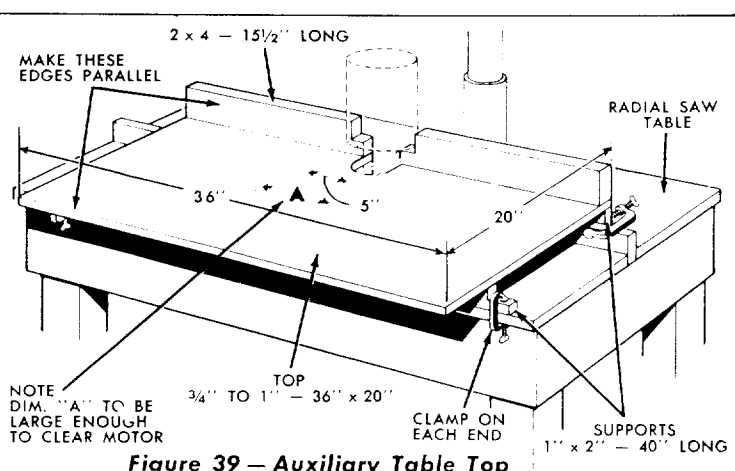

Figure 39 - Auxiliary Table Top
7. An auxiliary table top for molding or shaping can be constructed similar to Figure 39. Note the shape of the back guide fence against which your work piece is moved. A cut-out 5" wide should be made at the center of this guide fence to give adequate clearance for the molding head and cutters. Also a wider clearance marked "A" should be made to allow for the radial saw motor. Be sure the front edge of the auxiliary table is parallel with the surface of the guide fence. With the auxiliary table top thus completed it is ready for use by merely clamping it into position with "C" clamps.